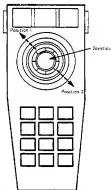

Figure 6-2. Joystick Positions 1 & 2
- 2) Press key 5 and then press START to bring up the Pokey Adjust Screen.
- 4) Move the controller joystick to position 1, as illustrated in Figure 6-2 below. The readings on the screen should be less than 25 for Port 1 (Port 1 = Horizontal and Vertical).
- 5) Move the controller joystick to position 2, as illustrated in Figure 6-2. The readings on the screen should be greater than 190 for port 1.
Use Figure 6-2 on Page 6-3 as reference for Steps 1 and 2.
- 5) Move the controller joystick to position 1 (refer to Figure 6-2). Use an Ohm meter to determine the pot readings through the cable (cable connector Pins 11 & 9 and 10 & 9). The pot reading should be no greater than 50K Ohms.
- 6) Move the controller joystick to position 2 (refer to Figure 6-2). The pot reading through the cable (connector Pins 10 & 9 and 11 & 9) should be at least 430K Ohms greater than in position 1.